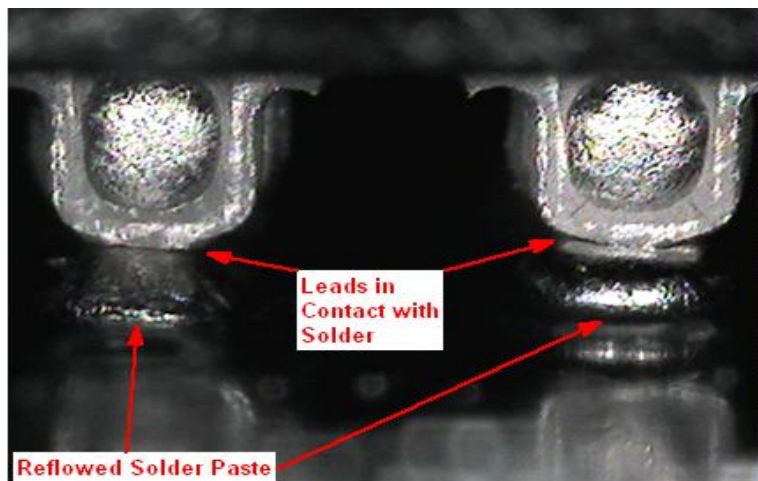
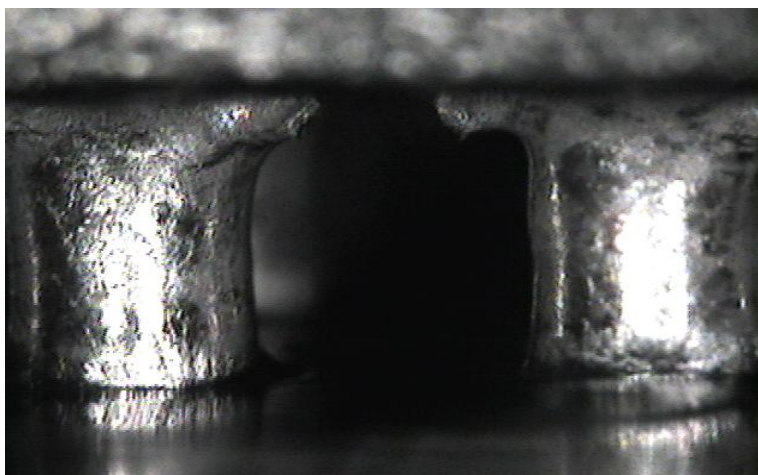

Fig. 10. Defective outer row solder joints. 外排不良焊锡点
Fig. 11. Outer row solder joints from **Fig. 10** reworked using a hand held hot-air system. 修正后的外排焊锡点。
NOTE: One of the most common issues customers face during the initial profiling stage is inadequate heating of the solder charges. **Fig. 10** below is an example of how the solder charges appear when they have not reached proper reflow temperatures. Even though the leads touched the solder printed on the board the wetting was not sufficient to form a good joint. When this is the result, the profile must be adjusted until the solder joints look like those in **Fig. 11**.
说明：最普通的问题之一是在回流初始阶段，客户面临着对Solder Charge预热不足。如下面**Fig. 10**是一个当Solder Charge没有达到正常的回流温度而出现不良品的例子。即使端子引线接触到了板上的熔化锡，但这种回流不足以达到很好焊接。当出现这种不良时，回流条件必须调整，直到焊锡点如**Fig. 11**一样良好回流。
- The defects shown in **Fig. 10** below occurred on the outer row of contacts and were reworked using a Hakko FR-802 Hot-Air Rework System and 4.4mm nozzle. The liquid water-soluble flux was applied with a brush at the defect sites and hot-air was introduced by moving the nozzle in a circular motion so as not to damage the connector or board. With the addition of flux and the already present solder, wetting easily occurs and the terminations are soldered. **Fig. 11** shows the same two joints after they were reworked using this method. 下面 **Fig. 10** 所示的不良出现在触点的外排，可使用 Hakko FR-802 热风修正机和 4.4mm 的风嘴进行修正。用一把刷子蘸水溶性松香到不良区域，用热风机风嘴沿不良区域圈状移动着吹以避免损坏接头和电路板。在松香的帮助下，已有锡点的不良区域很容易就被焊接好。**Fig. 11** 是 **Fig. 10** 用这种方法回流后的结果。